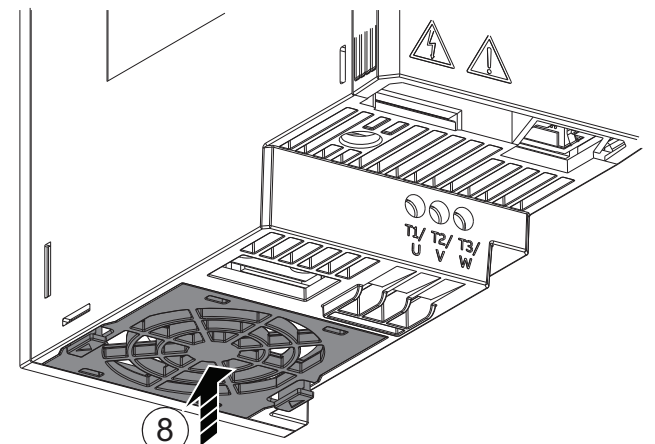

Fig. 72 — Place Fan Cover Back into Drive
8. Carefully put the fan cover into position in the drive. Make sure that the fan power cable is routed correctly. Push the cover to lock into position. (See Fig. 72.)